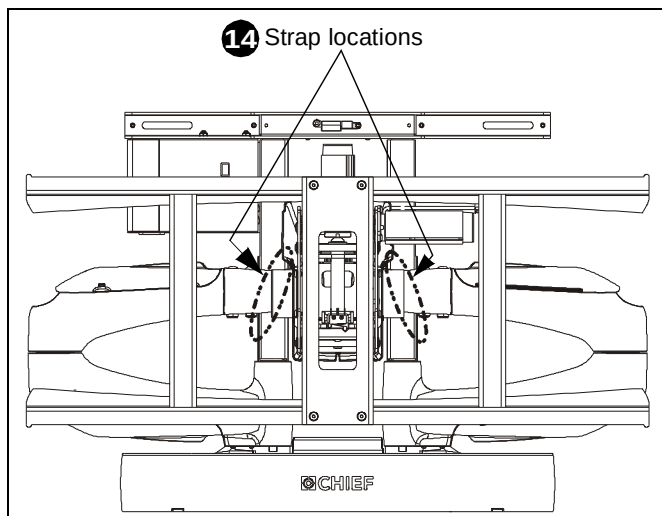

Figure 14
14. Remove two orange Velcro® straps holding PXR arms in place. (See Figure 14)